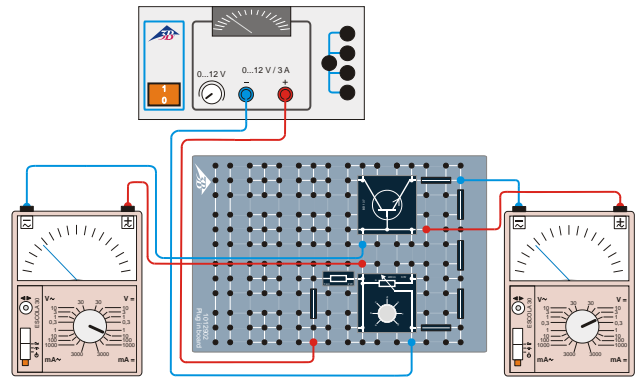

Fig. 3: Sketch of circuit for recording input characteristic.
- Set up the circuit as shown in Fig. 3. The two analogue multimeters in the circuit are for the purpose of measuring the base-emitter voltage  $U_{BE}$  and the base current  $I_B$ .